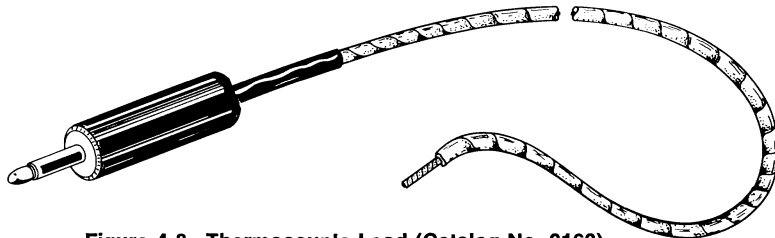

Figure 4-8. Thermocouple Lead (Catalog No. 0163)
- Plug the thermocouple lead (Catalog No. 0163, Figure 4-8) into the jack marked TEMP.